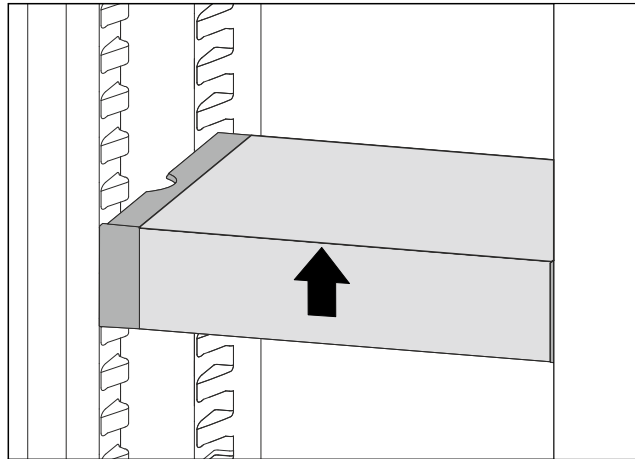

*Fig. 122*
- ▶ Place the VarioSafe drawer behind the stoppers on desired rib *Fig. 122 (1)* or *Fig. 122 (2)*.